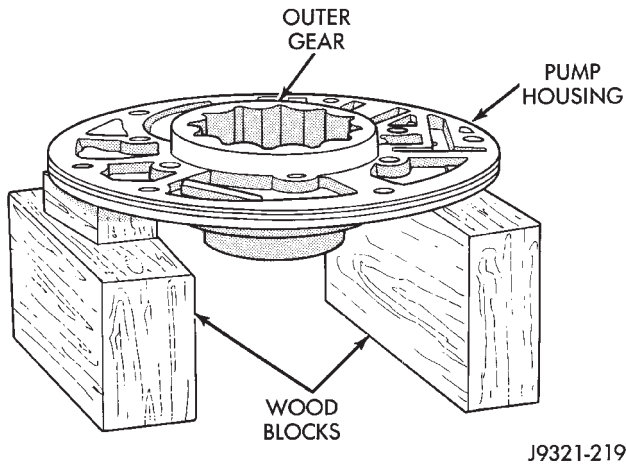

Fig. 129 Supporting Pump And Installing Outer Gear
(1) Lubricate gear bore in pump housing with transmission fluid.
(2) Lubricate pump gears with transmission fluid.
(3) Support pump housing on wood blocks (Fig. 129).
(4) Install outer gear in pump housing (Fig. 129). Gear can be installed either way (it is not a one-way fit).